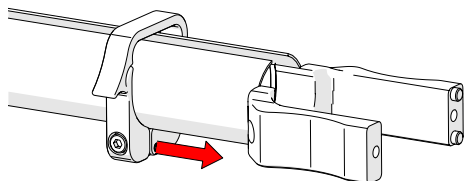

Fig. 144 - Slide clamp onto mount
2. Slide the clamp over the tube and cable management mount, pinching the tube in between (Fig. 144).